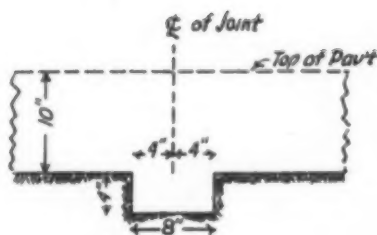

Fig. 1
1. Fig. 1.—Cut trench along center line of joint, 4 in. deep and 8 in. wide.